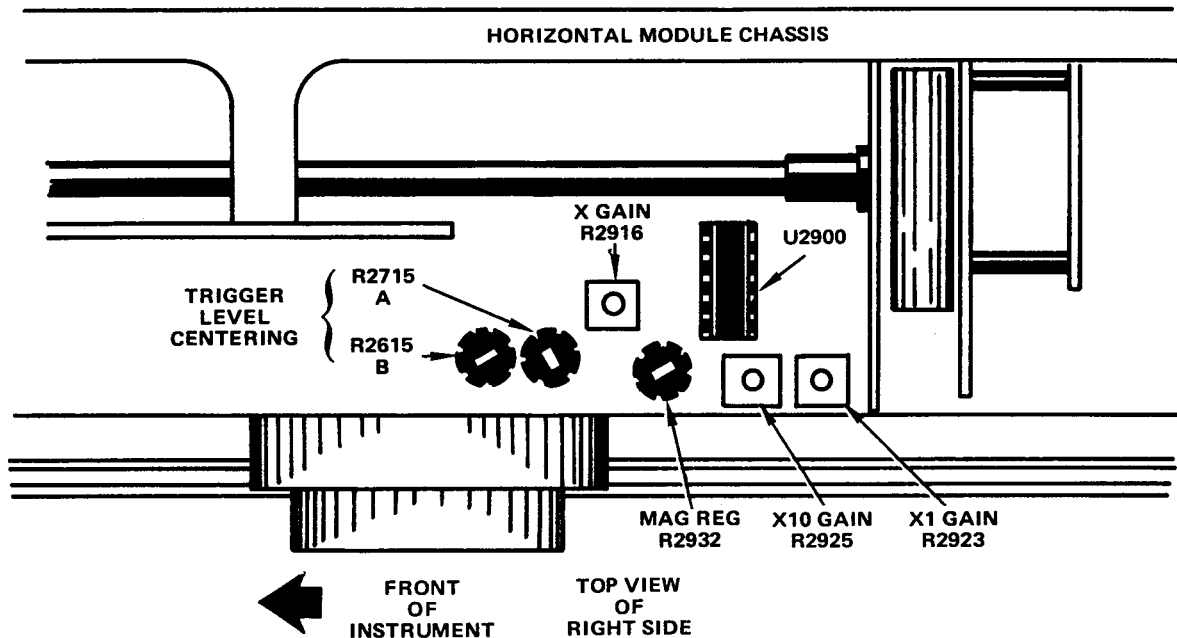
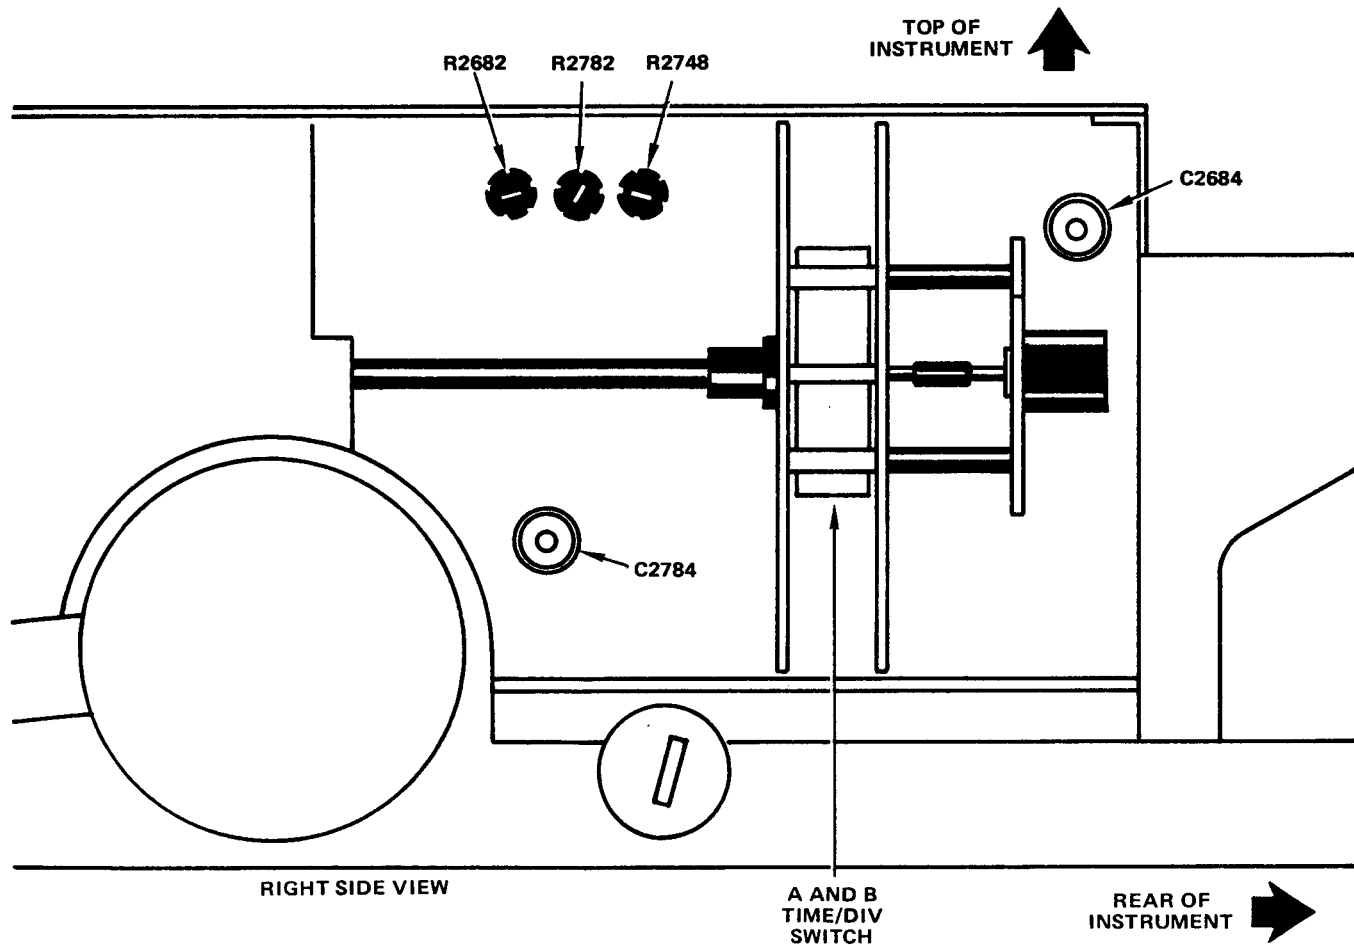
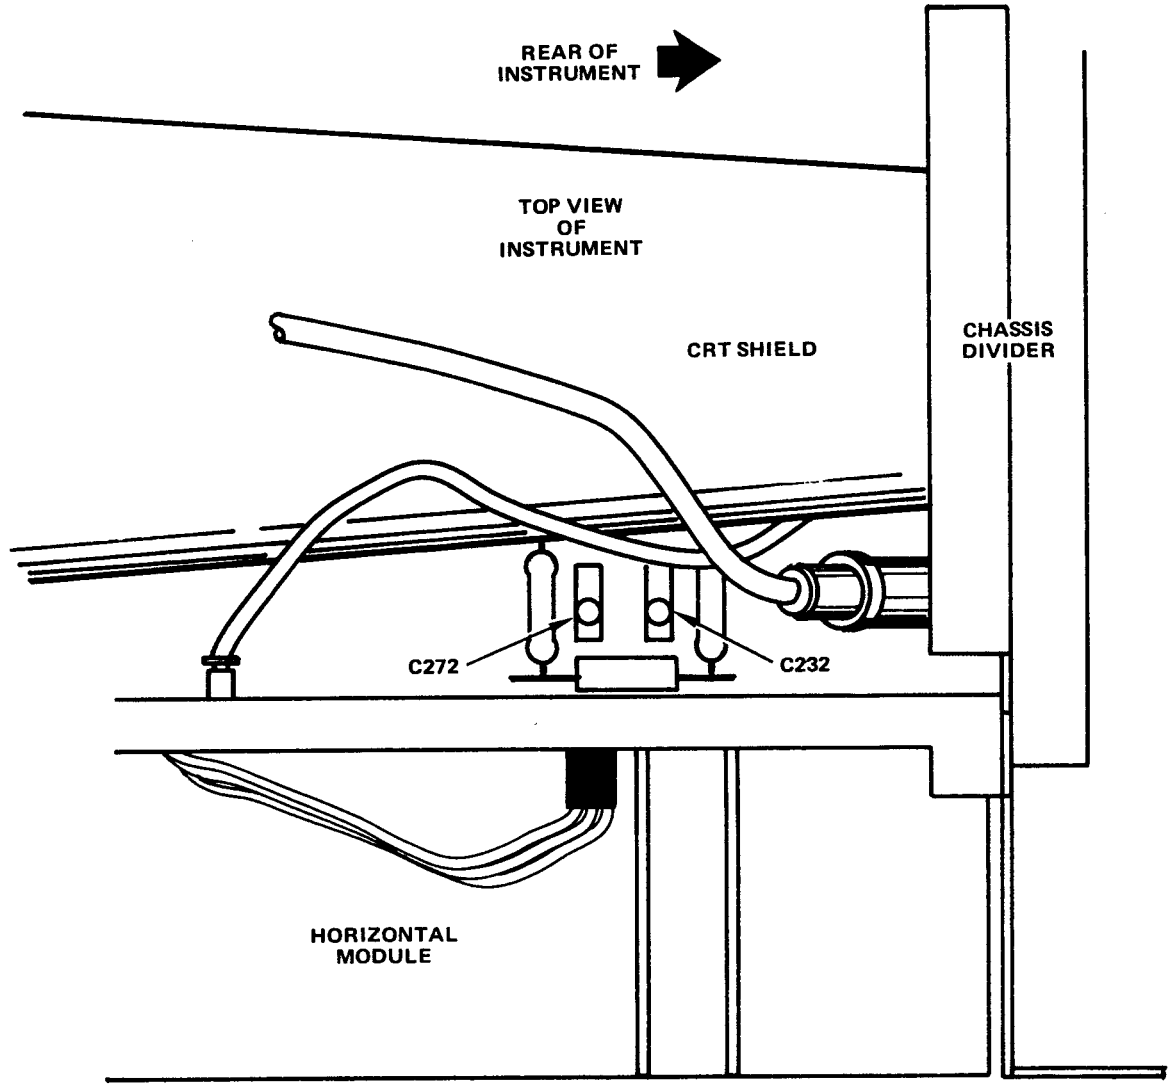

Figure 5-22. Trigger and horizontal adjustment locations.
Figure 5-23. Sweep adjustment locations.
Figure 5-24. 5 nanosecond timing adjustment locations.
*A LEVEL and R2715 may interact with each other; therefore, repeat steps (3) through (6) until no further adjustment of R2715 is needed.*
(7) Set HORIZ DISPLAY to B DLY'D.
(8) Set B COUPLING to AC.
(9) Adjust B LEVEL for a stable display.
(10) Set B COUPLING to DC.
(11) Adjust TRIGGER LEVEL CENTERING B, R2615 for a stable display.
*B LEVEL and R2615 may interact with each other; therefore, repeat steps (3) through (6) until no further adjustment of R2615 is needed.*
(12) Disconnect the sine wave generator.
**o. Sweep Start-Stop (Figure 5-23).**
(1) Set controls as follows:
*R2782 and R2748 may interact with each other; therefore, repeat steps (3) through (6) until no further adjustment is needed.*
(7) Set HORIZ DISPLAY to B DLY'D and horizontally position the start of sweep within the graticule area.
(8) Set DELAY TIME POS to 1.00.
(9) Very slightly adjust R2782 until the time mark starts at the beginning of the sweep.
(10) Set DELAY TIME POS to 9.00.
(11) Very slightly adjust R2748 until the time mark starts at the beginning of the sweep.
*R2782 and R2748 may interact with each other; therefore, repeat steps (8) through (11) until no further adjustment is needed.*
(12) Set DELAY TIME POS to 0.0.
(13) Continue to the next procedure.
**p. Horizontal Gain (Figure 5-22).**
(1) Set HORIZ DISPLAY to A.
(2) Adjust X1 GAIN, R2923 until the 1st and 11th time marks are exactly aligned with a graticule line. There should be one time mark per division within 0.25 minor divisions.
(3) Set X10 MAG to In (on).
(4) Set time mark generator for .1 ms time marks.
(5) Adjust X10 GAIN, R2925 for one time mark per division.
(6) Continue to the next procedure.
**q. Magnifier Registration (Figure 5-22).**
- (1) Set X10 MAG to In (on).
- (2) Adjust horizontal POSITION until the sweep starts at the center vertical graticule line.
- (3) Set X10 MAG to Out (off).